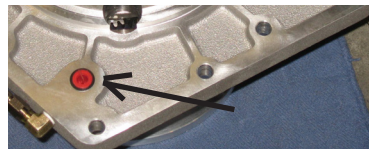

Figure 7: Red Plug
1. Remove the red plug and O-ring, from the RubiCrawler as seen in Figure 7 . Remove the rag from the transmission and discard the red plug.